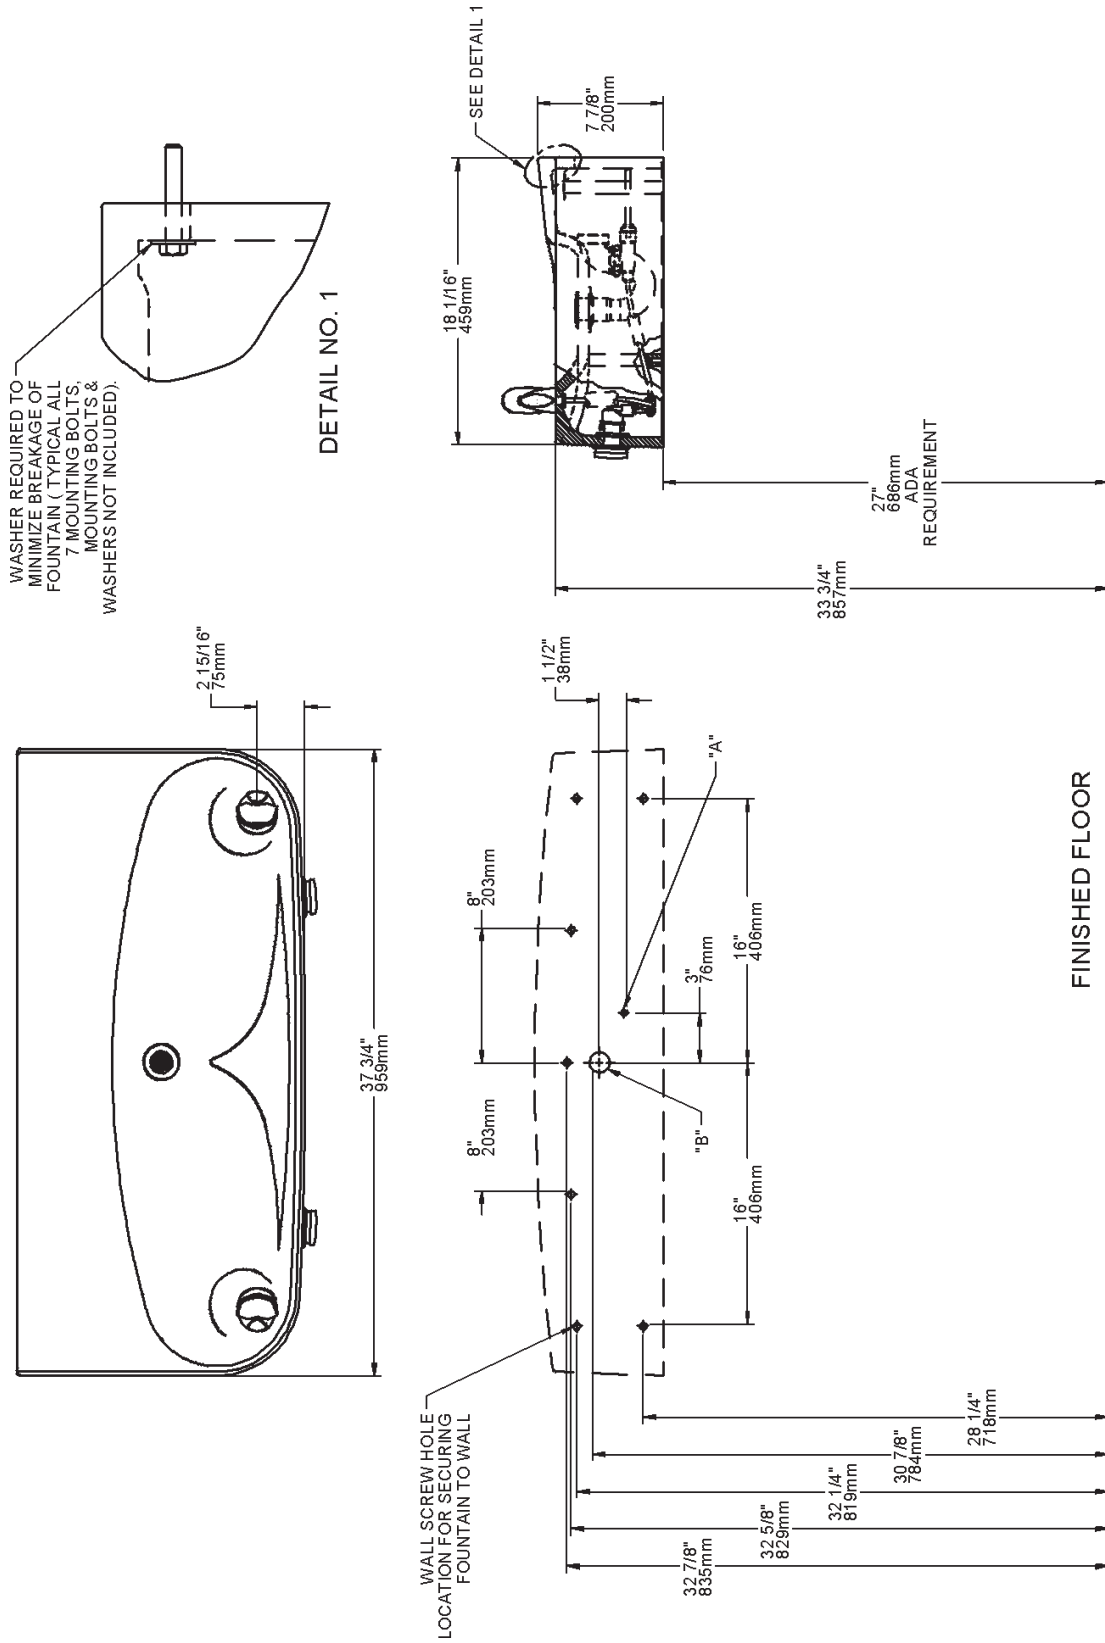

FIG. 3
1. **Wall** should already be framed for the fountain using the positioning dimensions shown in Figure 3. Shown dimensions pertain to installation location (framing must support up to 150 lbs. weight). These dimensions are required for compliance with ANSI Standard A117.0.
2. **Install** rough-in plumbing as shown in Figure 3. Run the supply water inlet line and connect to a service stop (not provided). Turn on supply water and flush thoroughly.
3. **Remove** bottom access panel from fountain basin and save the screws. Install the fountain to the wall using (7) 5/16" bolts and washers (not provided). Bolts should be long enough to securely fasten the fountain to the wall. Tighten securely, but do not over tighten. Over tightening will crack the fountain.